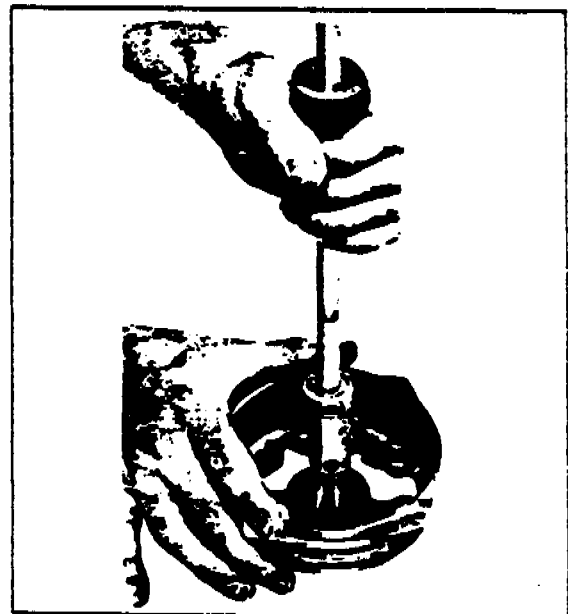

Figure 9-27d. Removal of Slip Ring End Bearing
- e. To remove the slip ring end bearing and grease seal, it will be necessary to have a hook type or impact type bearing pulley as shown in Figure 9-27d. Do not remove the bearing unless replacement is necessary.